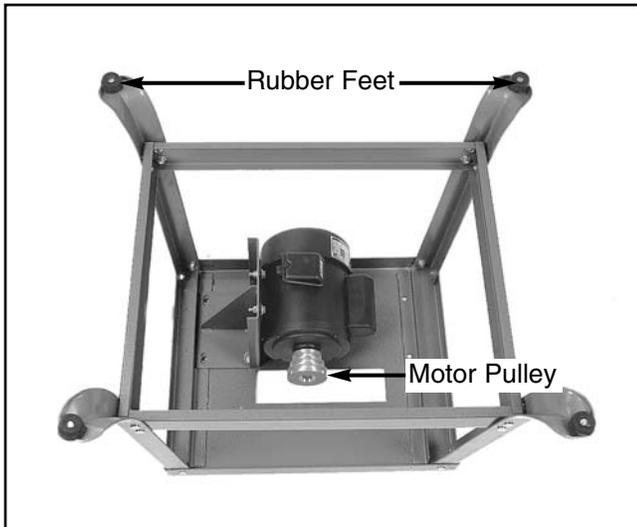

Figure 5. Legs and braces attached to top.
3. Attach the four (4) legs to the inside of the stand top and the four horizontal braces to the inside of the legs as shown in **Figure 5**. Use the $\frac{5}{16}$ "-18 x $\frac{5}{8}$ " carriage bolts, $\frac{5}{16}$ "-18 nuts, and $\frac{5}{16}$ " washers provided. The two shorter braces are slightly wider than the longer braces. When attaching the braces to the legs, the longer braces rest inside the two flanges of the shorter braces. The square holes in the legs are angled to accommodate the angle of the legs.